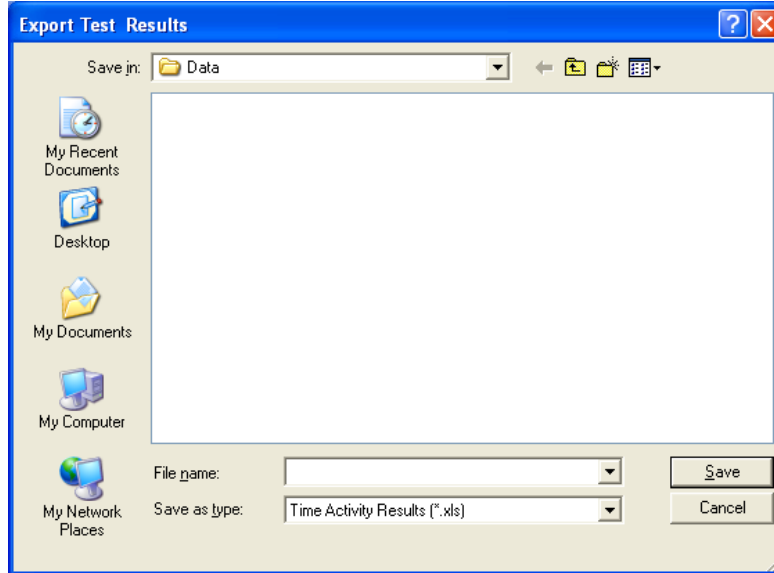

Figure 9-9
- If you click on **Export**, the screen appears as in Figure 9-9.